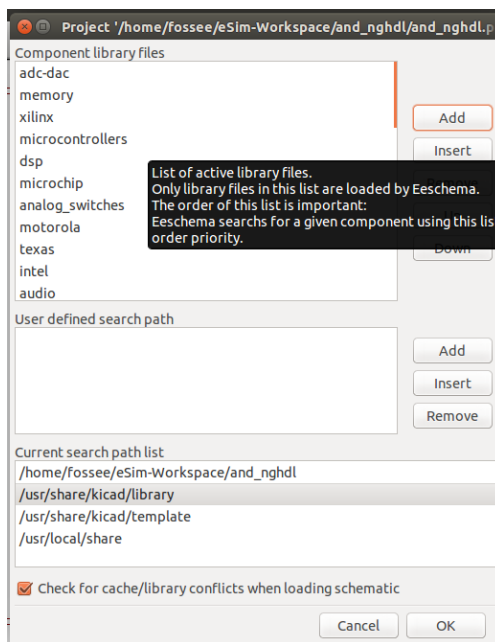
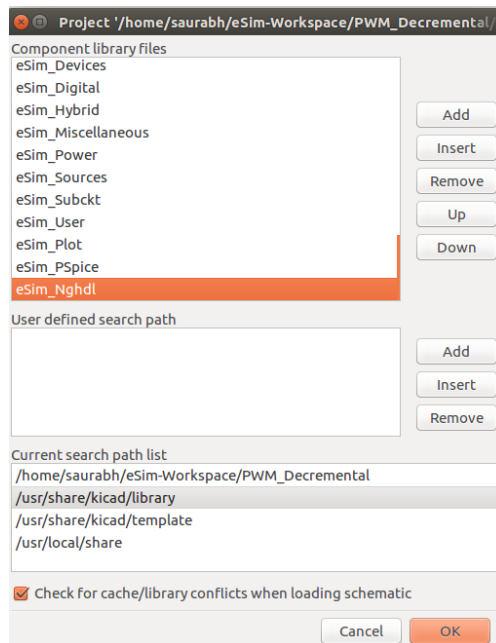

Figure 10.6: Adding the digital model library in KiCad
Figure 10.7: Selection of library
2. After successful upload of the model using the VHDL code, you can create the schematic of your design by clicking on **Open Schematic** button on the left pane of the eSim window. Then go to **Preferences** option on top of the schematic editor window and click on **Component Libraries** to add the library `eSim_Nghdl.lib` in KiCad. Following window will appear as shown in Fig. 10.6, where you will have
to click on *Add* button and select the eSim_Nghdl library. Refer Fig. 10.6 and Fig. 10.7.